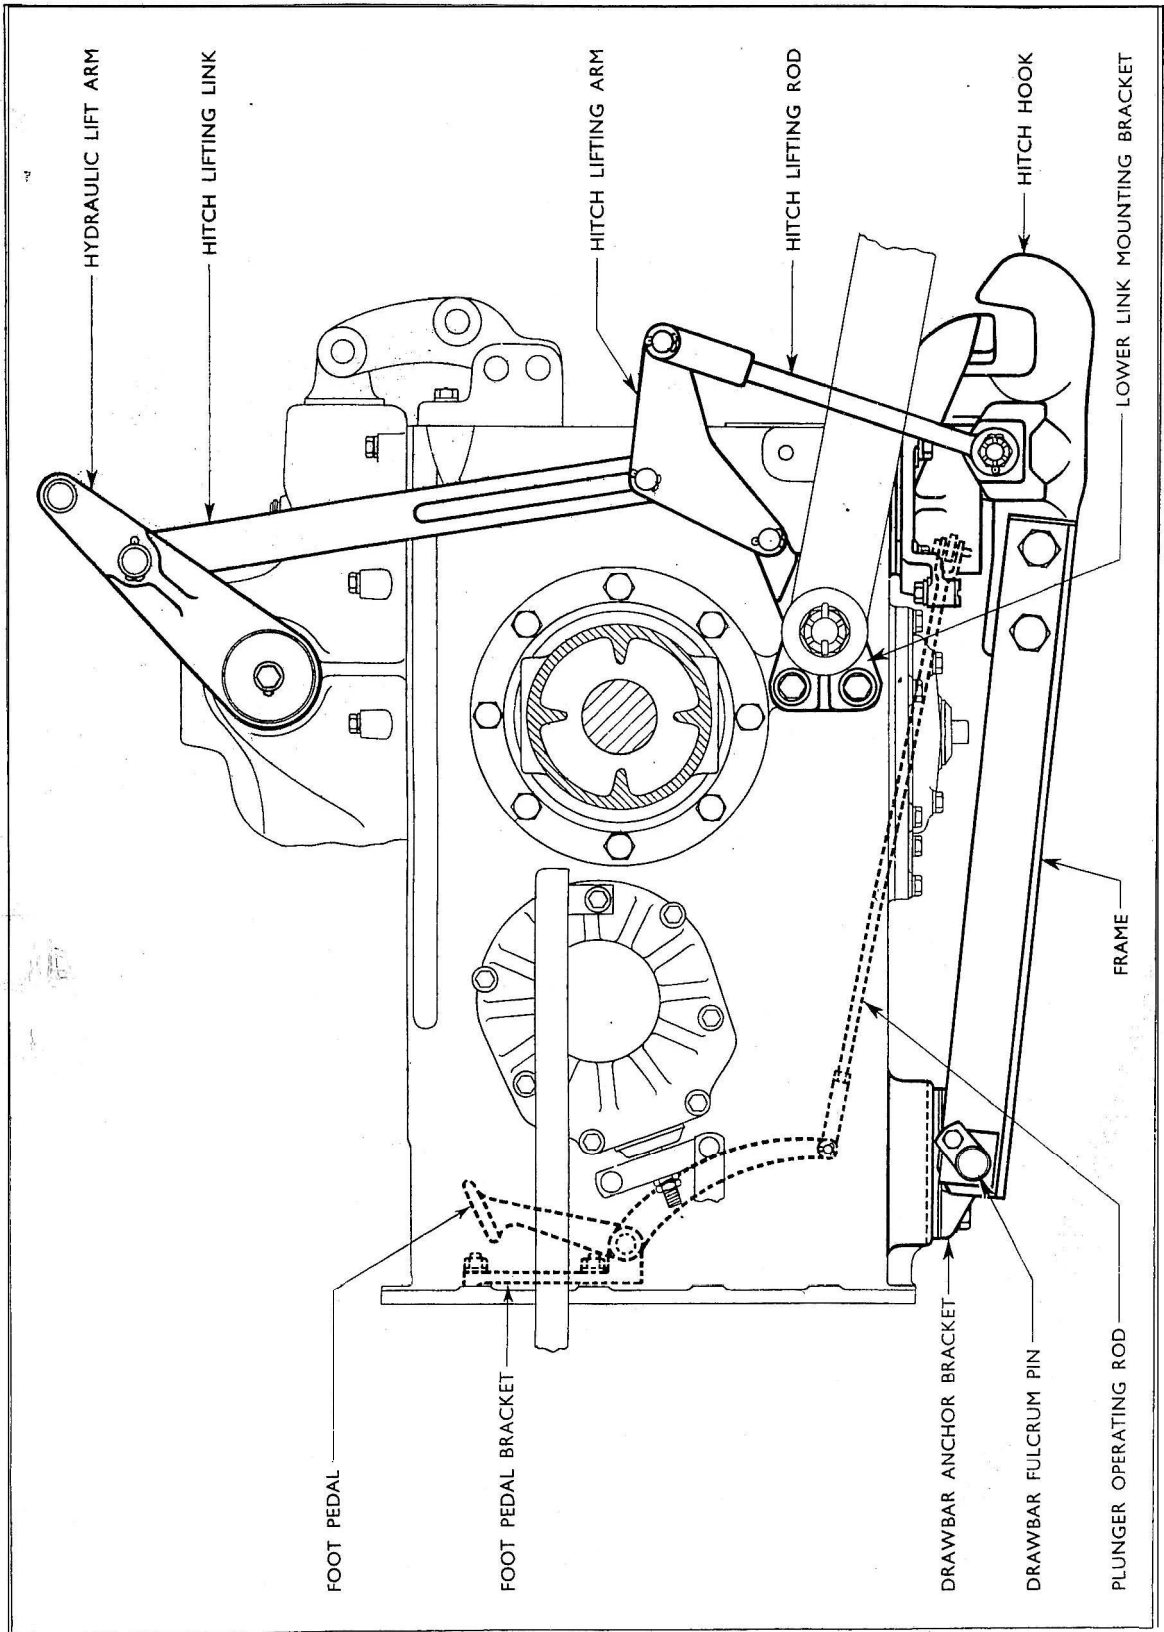

Fig. 4
8. Remove, and discard, the two top right-hand bolts from the gearbox/rear transmission housing flange and position the foot pedal and release linkage assembly so that the pedal mounting bracket may be secured to the rear of the transmission housing flange at this location as shown in Fig. 4. Secure the bracket with the two special long bolts supplied, remembering that the top bolt also retains the footbrake locking device bracket to the front of the gearbox flange.
12. Fit the triangular shaped hitch lifting arms to the lugs on the lower link mounting brackets with the apex of the triangle pointing upwards as shown in Fig. 4.